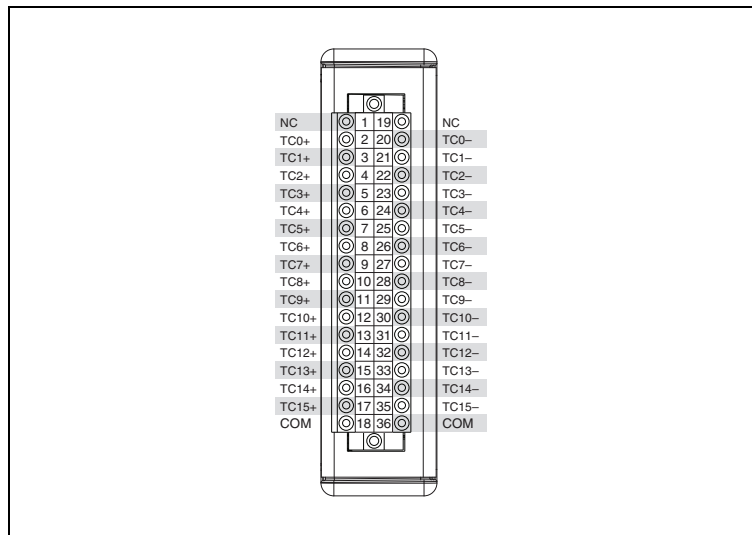

Figure 1. NI 9213 Terminal Assignments
1. Connect the LO output of the calibrator to all negative terminals of the NI 9213, then connect the HI output of the calibrator to all positive terminals. Refer to Figure 1 for the terminal assignments of the NI 9213.
1. Use copper wires to connect the positive and negative terminals of each channel on the NI 9213 to each other. Wire TC0+ to TC0-, TC1+ to TC1-, and so on. Refer to Figure 1 for the terminal assignments of the NI 9213.